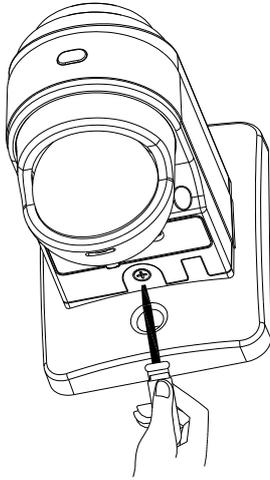

FIGURE 4
- (1) **WARNING** isolate the power supply. An internal single pole wall switch is recommended to allow easy control of the floodlight.
- (2) Detach the wall box by unscrewing the screw adjacent to the control knobs (retain the screw for later use). (FIGURE 4)